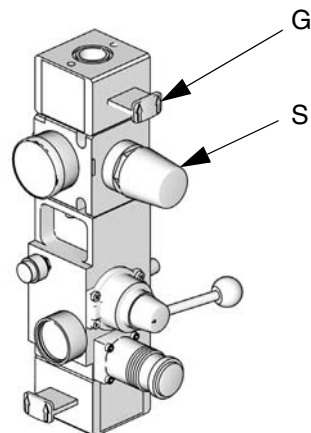
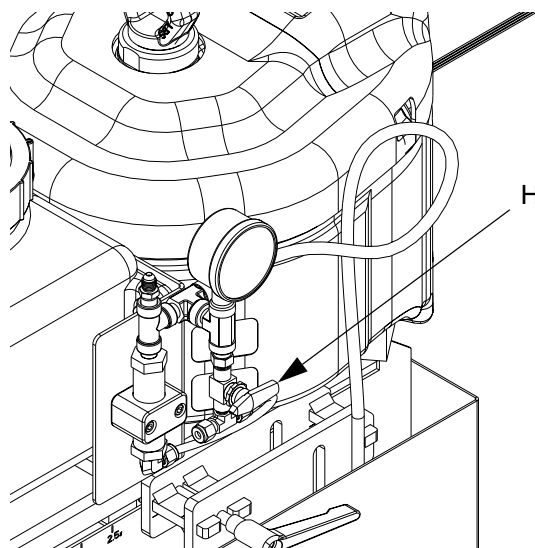

FIG. 11
FIG. 12
4. Open the catalyst bypass valve (H), FIG. 12, and the resin pump bleeder valve, having a container ready to catch the drainage.
3. Open the air motor air slider valves (G), FIG. 11. Make sure the catalyst bypass valve is closed (H), FIG. 12.